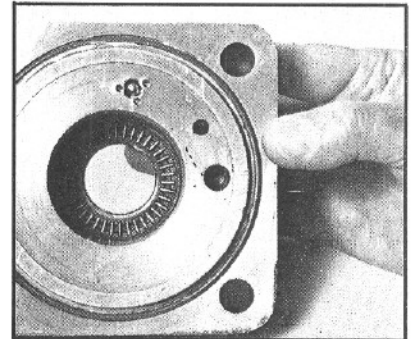

Figure 119
21. Apply a generous amount of clean grease to the thrust bearing (12). Install the bearing into the valve housing (9) and onto the first thrust washer, making sure to center the bearing on the washer (FIG. 119).
WARNING: THE THRUST WASHER AND THRUST BEARING MUST BE FLAT AND CENTERED IN THE COUNTERBORE SURFACE OF THE VALVE HOUSING (FIG. 119). OTHERWISE, THE THRUST WASHER COULD BREAK WHEN YOU PLACE THE VALVE HOUSING ONTO THE GEAR HOUSING. A BROKEN THRUST WASHER COULD CAUSE UNCONTROLLABLE STEERING, POSSIBLY RESULTING IN AN ACCIDENT.